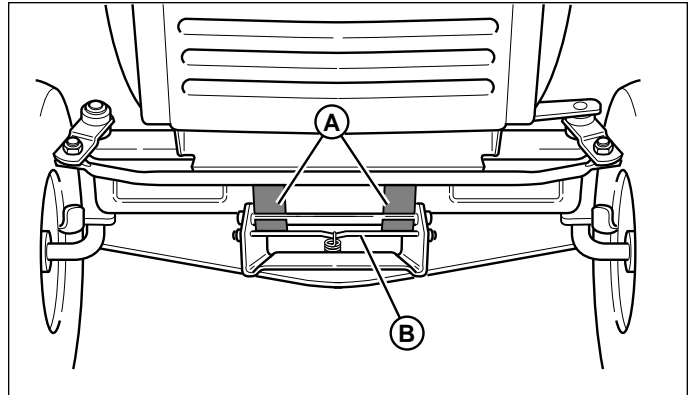

Figure 5. Mower Hitch
- the lift chains (B).
5. Turn the wheels straight ahead. Pull back on spring-loaded lever (B, Figure 5) and lift mower hitch off of the tractor brackets (A).
2. Place mower in the lowest cutting position using the mower height adjuster. Slide the mower deck under the right side of tractor so that the mower hitch is aligned with front tractor hitch (A, Figure 5).
3. See Figure 5. Turn wheels straight. Pull back on the spring-loaded lever (B) while lifting up on the mower hitch. Install the mower hitch onto tractor hitch brackets (A). When properly installed, the spring-loaded lever should seat fully underneath the brackets (A).